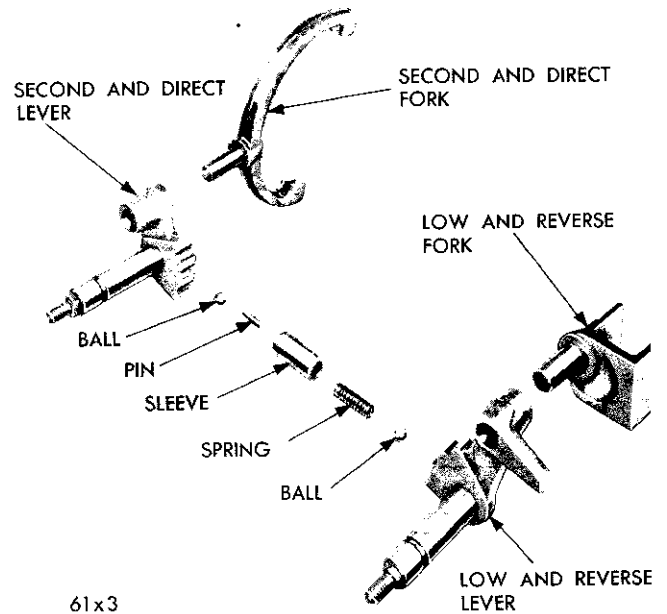

Fig. 25—A-745 Shift Forks and Levers
(1) Remove the operating levers from their respective shafts.
(2) Drive out the tapered retaining pin from either of the two lever shafts, then withdraw levershaft from inside the transmission. (The detent balls are spring loaded; as the shaft is being withdrawn, the ball will drop to the bottom of the case.)
(3) Remove the interlock sleeve, spring, pin and both balls from the case (Fig. 25). Drive out the remaining tapered pin, then slide the lever shaft out of the transmission.
(4) Using a suitable drift, drive out the lever shaft oil seals and discard.
To install the gearshift mechanism, refer to (Fig. 25), then proceed as follows: